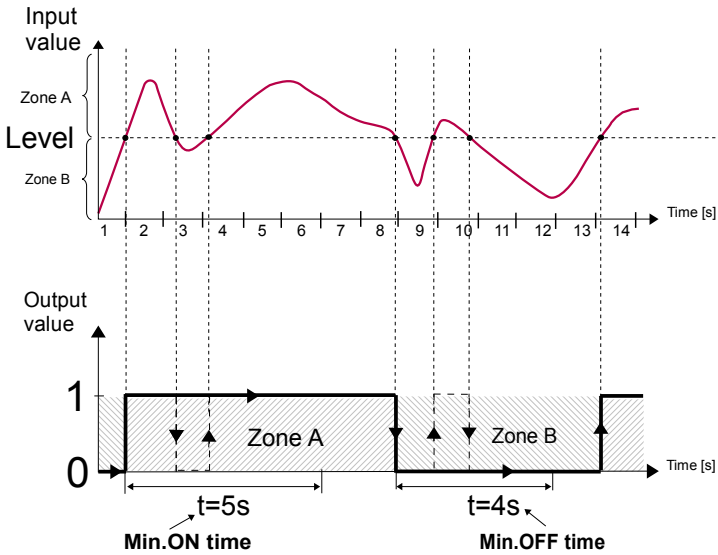

Fig. 7.84. Principle of relay output operation for sample timing settings:
- **Minimum ON time** - the minimum duration of a high state (if the output switches to high state the low state will occur after this time) - see Fig. 7.84,
- **Minimum OFF time** - the minimum duration of a low state (if the output switches to low state the high state will occur after this time) - see Fig. 7.84,